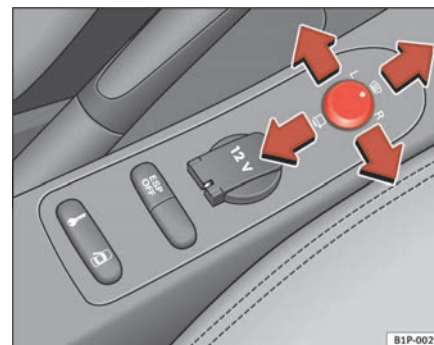

Fig. 87 Exterior mirror control
1. Turn knob ⇒ fig. 87 to position **L** (left exterior mirror). ▶
- Turn the knob forwards to the central position ⇒ page 125, fig. 87  so that the heated rear view mirrors warm up and the heated windscreen* in the wiper blade rest area is activated ⇒ page 121.
- Turn the control ⇒ page 125, fig. 87 to position  to fold in the exterior mirrors. You should always fold in the exterior mirrors if you are driving through an automatic car wash. This will help prevent damage.